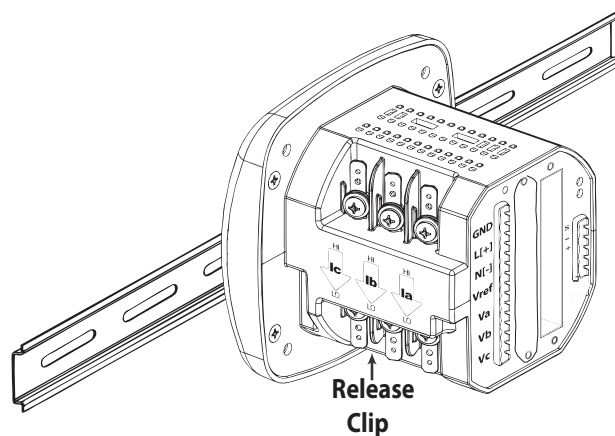

Figure 3.7: Transducer on DIN Rail
- To remove the meter from the DIN Rail, pull down on the Release Clip to detach the unit from the rail (see Figure 3.7).